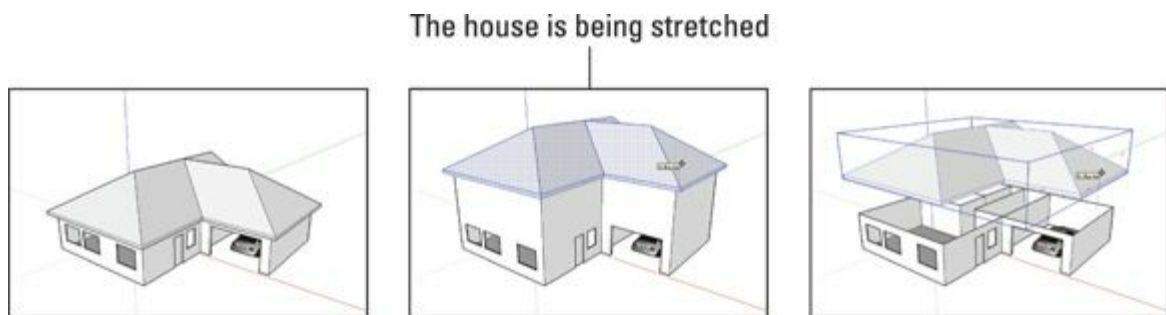

FIGURE 5-1: Making the roof into a group means that it won't stick to the rest of your building.
- » **Grouped geometry doesn't stick to anything.** Perhaps you've modeled a building, and you want to add a roof. You want to move the roof out of the way with the Move tool, but every time you try, you pull the top part of the house along with it (like the middle image in Figure 5-1). Making the roof a separate group enables the roof to sit on top of your house without sticking to the walls, as shown in the right image in Figure 5-1.